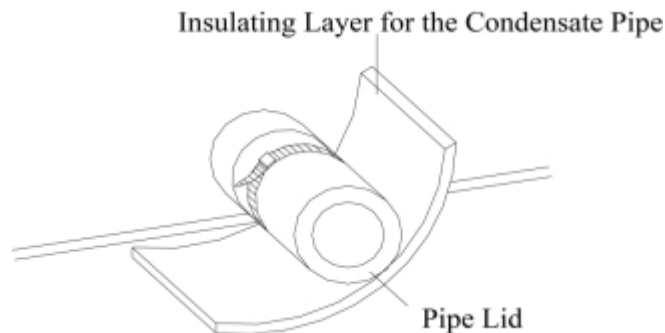

Figure 13: Thermal Insulation of the Condensate Pipe
1. The condensate pipe should be installed at an angle of 5 - 10° to facilitate the drainage of condensate water from the unit. The condensate pipe should be insulated to minimise condensation (See Figure 13).